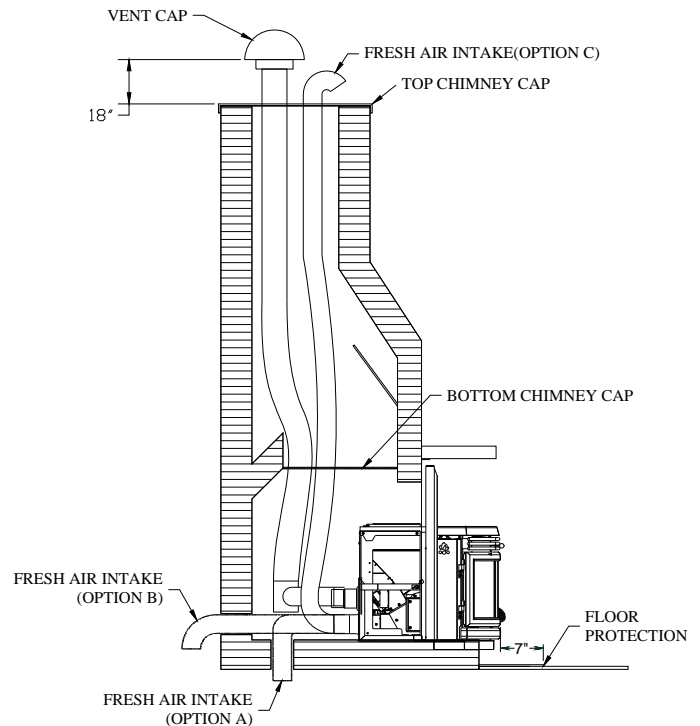

Figure 24
4. You can install a fresh air intake as per Figure 24: